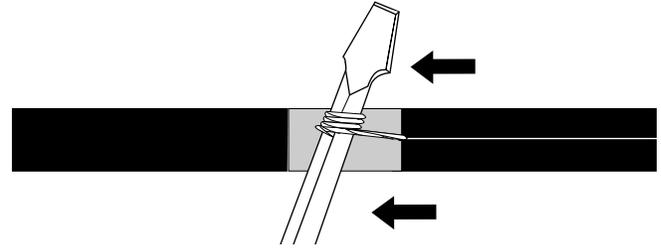

Figure 17
6.5 Pull the rip cord through the sheath to the wrap of tape (Figure 17). Cut the rip cord flush at the tape mark.